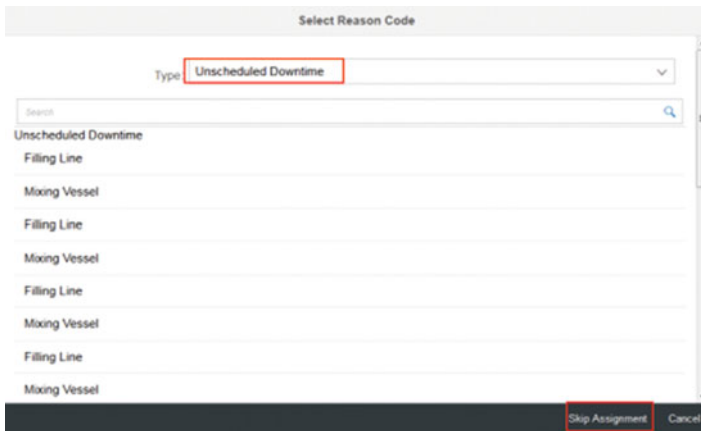

Figure 6-28. OEE dashboard: select data collection element
4. Select the line on which to create the line minor stoppage or select a machine from the list to create a machine minor stoppage. In the Type drop-down, you get the list of data collection elements created to capture the type of downtime loss. Refer to Figure 6-28. By default, unscheduled downtime is the data collection element used. The data collection element acts as an identifier for the system to categorize this time loss to the correct KPI. You can select the right reason code if you know, else you can select “Skip Assignment.”